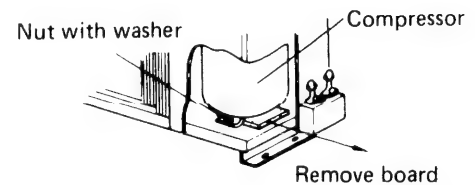

Fig. 37
- Check to see if compressor mounting bracket or board, which secures compressor during transportation, is removed. If not, remove them. Fig. 37